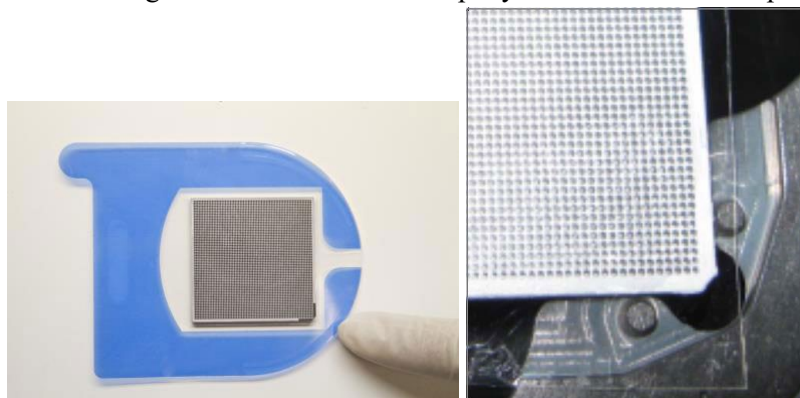

Figure 52. Peel the blue backing from the sealed chip and place it in the SmartChip Cycler.
5. Peel away the blue backing from your sealed SmartChip Panel or MyDesign Chip to expose the adhesive patches. Place it in the SmartChip Cycler with the beveled edge in the lower right corner as shown in Figure 52. Make sure the chip lays flat in the SmartChip holder.